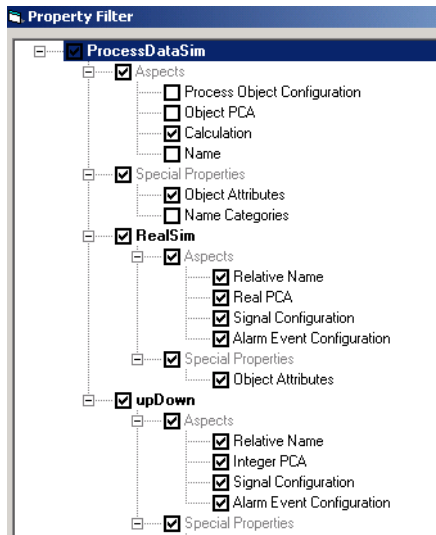

Figure 371. ODA Table Definition - Property Filter
Use the filtering options to reduce the number of properties presented in the property list to a manageable quantity. Properties are filtered on a group basis, as shown in Figure 371 and as described below:
- **Aspect Properties** - These are properties related to aspects of the object (or object type). Properties can be filtered on an aspect-by-aspect basis. For example, in Figure 371 the ProcessDataSim object has four aspects, but only one (Calculation) is selected.
- **Child Object Properties** - For object types, the properties of children objects are grouped on an object-by-object basis in a manner similar to the aspect properties. This is not applicable for object instances. For example, in Figure 371, the ProcessDataSim object has two child objects: RealSim and upDown. Each of these objects has aspects and special properties.